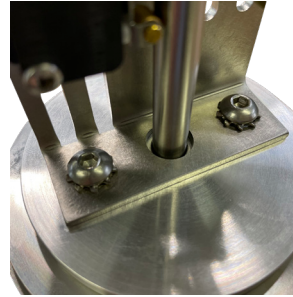

FIG. 13 - MICROSWITCH BRACKET INSTALLATION.
4. Install the microswitch bracket onto the cylinder using the two microswitch bracket screws and their washers. The screws require a 5/32" hex wrench. Ensure to align the center hole in the bracket so that it is concentric with the actuator stem as shown in Fig. 13.